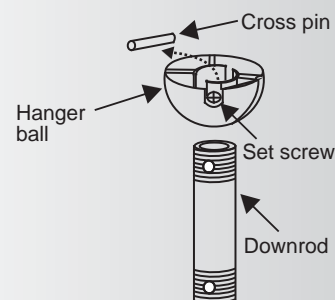

Fig. 7
Step 3. Remove hanger ball from downrod assembly by loosening set screws, removing the cross pin, and sliding ball off the rod. (Fig. 7)